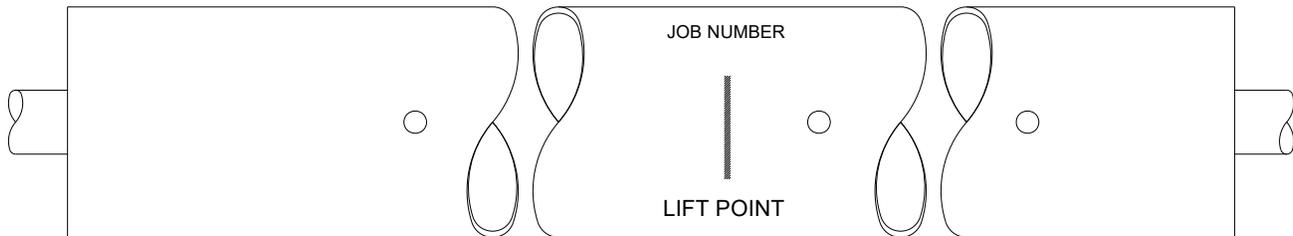

Figure 6.1 – Barrel Markings (right hand operation shown)
2. Unpack the barrel assembly. Note the markings on the barrel, see **Figure 6.1** below.
- Crane Hoisting:** Place a sling or lifting agent under the barrel assembly at the “lift point” provided on the barrel, see **Figure 6.1**.
- Forklift Hoisting:** Space the forks evenly under the “lift point” provided on the barrel, see **Figure 6.1**. Ensure that the barrel assembly is positioned close enough to the tips of the forks that the fastening holes in the bracket can be aligned with those of the guides without the forks contacting the wall. Secure the barrel assembly to avoid the slipping off the tip of the forks.